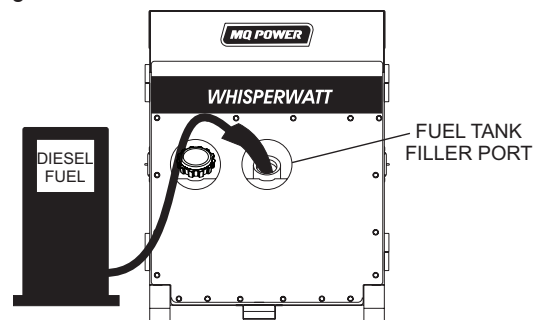

**Figure 37. Only Fill On Level Ground**
1. **Level Tanks** — Make sure fuel cells are level with the ground. Failure to do so will cause fuel to spill from the tank before reaching full capacity (Figure 37).